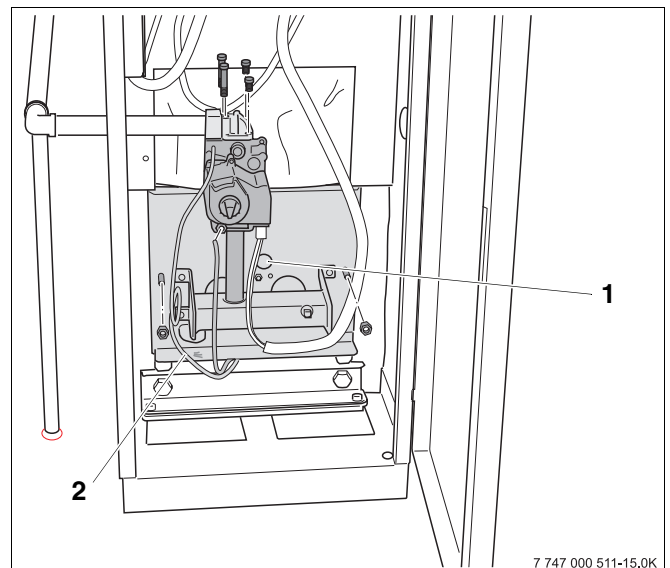
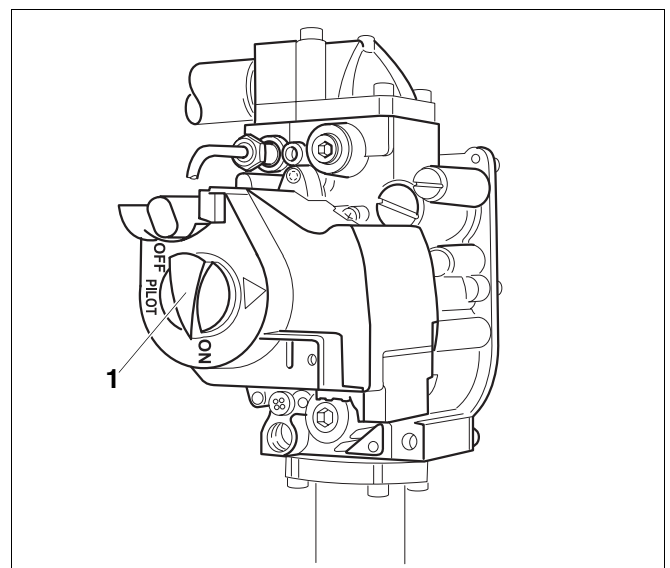

Fig. 29 GC124 SP boiler
Fig. 34 GC124 SP gas valve
16. Observe main burner flame through the sight glass (→ Fig. 29, page 35) in the burner plate. The flame must have a steady and fixed contour and generally has a bluish color. If the main burner flame meets the requirements, proceed with step 17. If the main burner flame is too weak or is yellow or goes out, turn the ON/OFF knob (→ Fig. 34) on the gas valve clockwise to OFF. Close the gas shut-off and disconnect the heating system from the power supply and contact the customer service technician or the gas company.
17. Turn gas valve ON/OFF knob (→ Fig. 34) clockwise to OFF position. The main burner flame and the ignition flame are extinguished.
18. Turn gas valve ON/OFF knob (→ Fig. 34) counterclockwise to PILOT position.
19. Wait three (3) minutes and turn gas valve ON/OFF knob (→ Fig. 34) counterclockwise to ON position.
21. If gas flows turn gas valve ON/OFF knob (→ Fig. 34) to OFF position immediately to close the gas valve. Disconnect heating system from the power source and inform your customer service technician or gas company. If no gas flows continue with step 22.